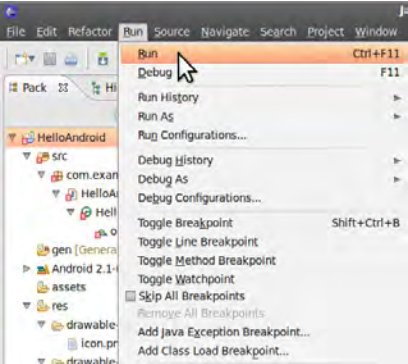

Figure 6-16. Running the project
8. Run the program by clicking the green Play button in the toolbar or by choosing Run→Run (Ctrl-F11), as shown in Figure 6-16.